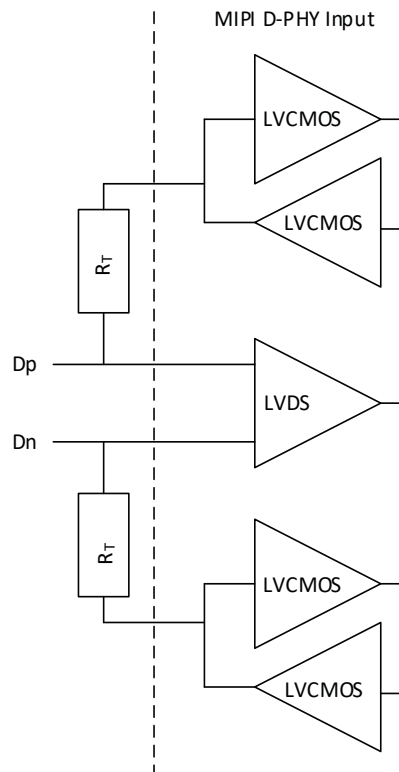
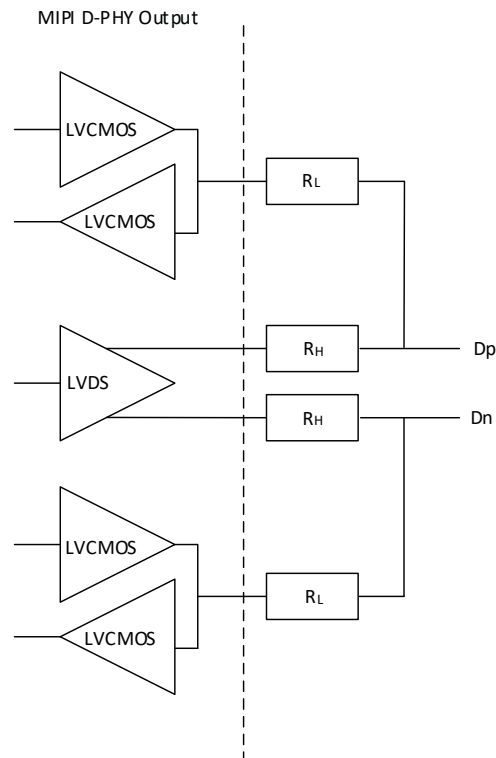

Figure 3.4. MIPI D-PHY Input Using External Resistors
Figure 3.5. MIPI D-PHY Output Using External Resistors
Mach-NX devices can support MIPI D-PHY unidirectional High Speed (HS) and bidirectional Low Power (LP) inputs and outputs via emulation. In conjunction with external resistors, High Speed I/O use the LVDS25E buffer and Low Power I/O use the LVC MOS buffers. The scheme shown in Figure 3.4 is one possible solution for MIPI D-PHY Receiver implementation. The scheme shown in Figure 3.5 is one possible solution for MIPI D-PHY Transmitter implementation.